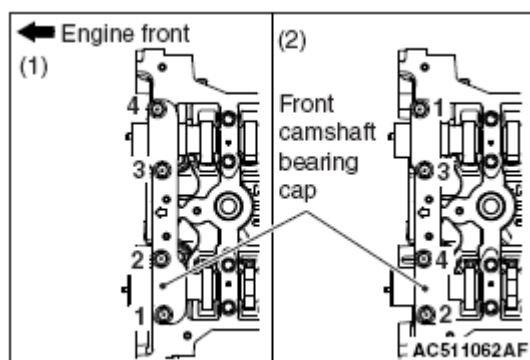

Fig. 65: Identifying Front Camshaft Bearing Cap Mounting Bolts Tightening Sequence
1. Install the front camshaft bearing cap to the cylinder head, and temporarily tighten the front camshaft bearing cap mounting bolts to the specified torque in the order of the (1) in **Fig. 65**
2. Tighten the front camshaft bearing cap mounting bolts again to the specified torque in the order of the (2) in **Fig. 65**